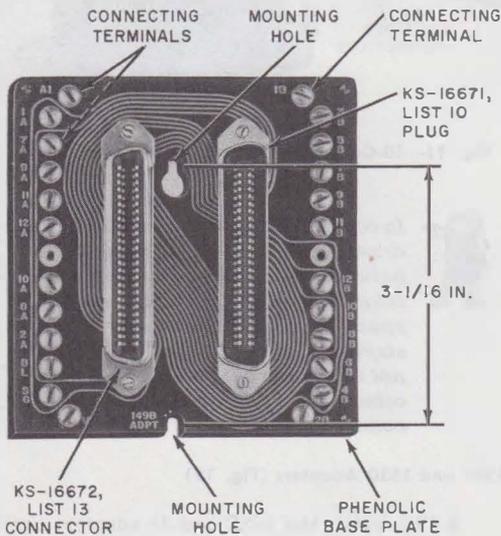

Fig. 7—149B Adapter—Printed Wiring Board Assembly
- Is similar to the 149A (MD) adapter except that wiring has been replaced by printed wiring, and the connector and plug are mounted on the face of the printed wiring board assembly (Fig. 7).